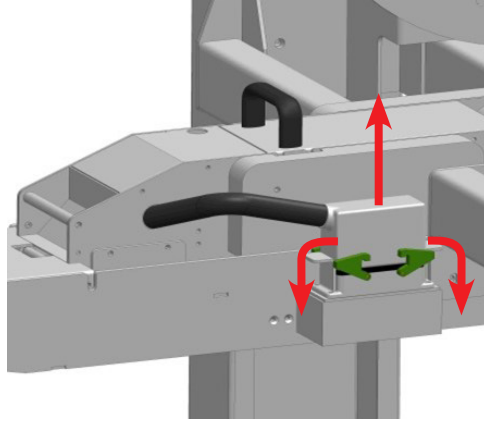

Figure 49: Power Disconnect
2. Disconnect electrical connection of tape head by unhinging and removing plug, (refer to Figure 49).